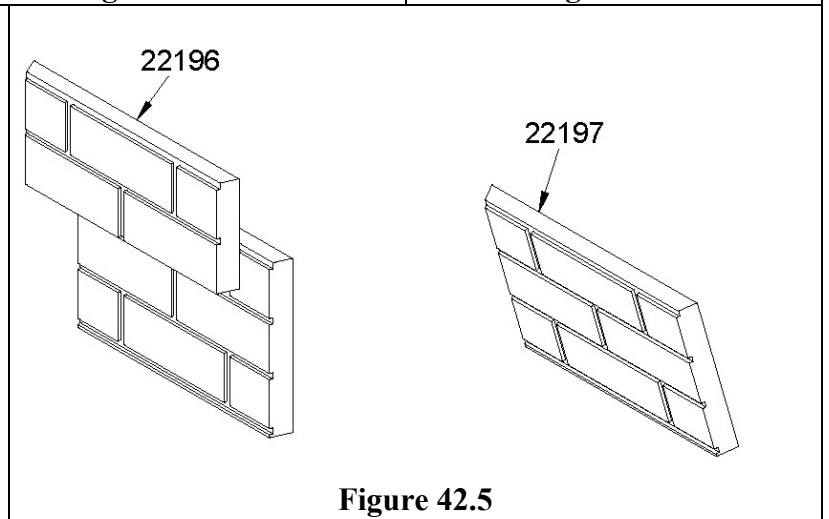

Figure 42.5
5. Remove the back refractory panels (22196 and 22197). Figure 42.5